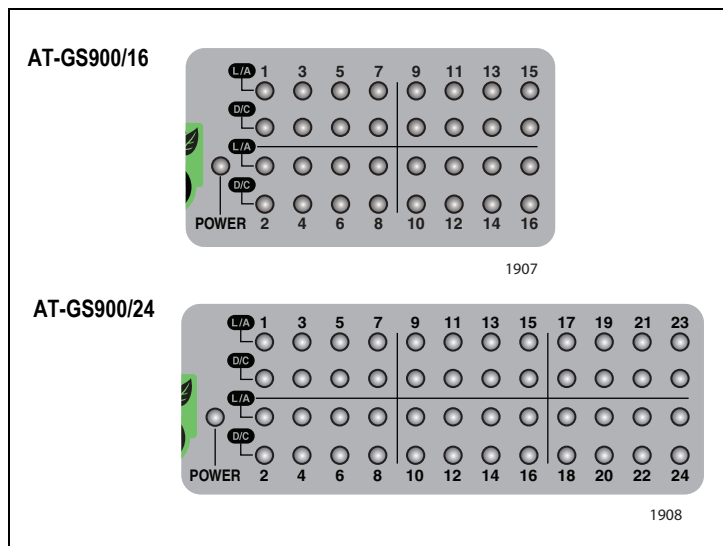

Figure 4. Port LEDs
**LEDs** The system and port LEDs on the front panel of the AT-GS900/16 and AT-GS900/24 switches display the switch and its port status information. See Figure 4. Each port has two LEDs.